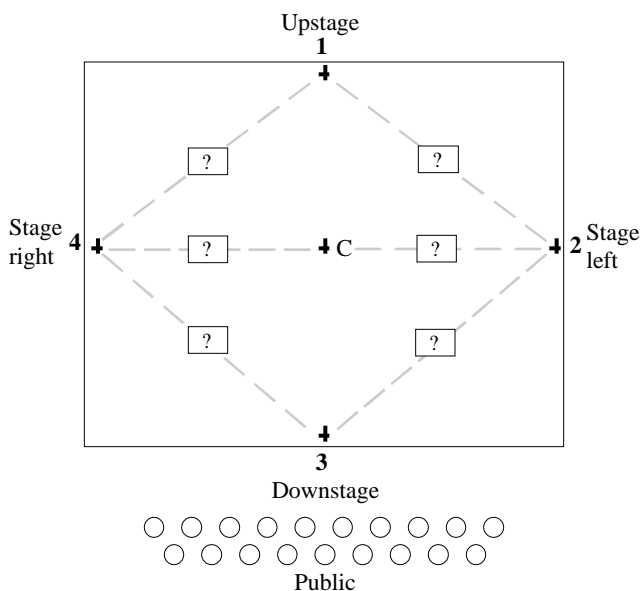

FIGURE 5 - Stage terminology and location of stagemarks.
Figure 5 shows the location of the five stagemarks. Mark the centre of your stage with some gaffer tape. This will be the *origin*, the central reference point for the system. Make four other marks: the centre-edge of your stage downstage (close to the public), the centre-edge of your stage upstage (far from the public) and the centre-edge of the stage’s right and left wings, as you stand on the stage facing the public.
Measure the distances between the stagemarks as shown in Figure 5, six in total. The measurements have to be in centimetres if metric units are chosen in the preferences and in feet and inches if Imperial units are chosen. Place laser reflectors exactly over the stagemarks: this is not essential but it will help you see the laser. The supplied laser reflectors are “pie slices” designed to be assembled as cones which provide an almost perpendicular surface to shine on. Use the sticky tape on the back of the slices to fold them into a cone. The next procedure will require the use of the laser calibrator. **Make sure to read the “warnings” section of this manual (pages 4-5) before attempting this step.**
- In this next screen you have to decide which points of the stage to use for the automatic calibration. You can either reuse the same stagemarks that you already measured when you calibrated the TrackPod (see Figure 5) or you can define new ones.
- i) Use the five stagemarks previously measured for an automatic TrackPod calibration in the stage set-up (see Figure 5). This is the fastest and most accurate option.